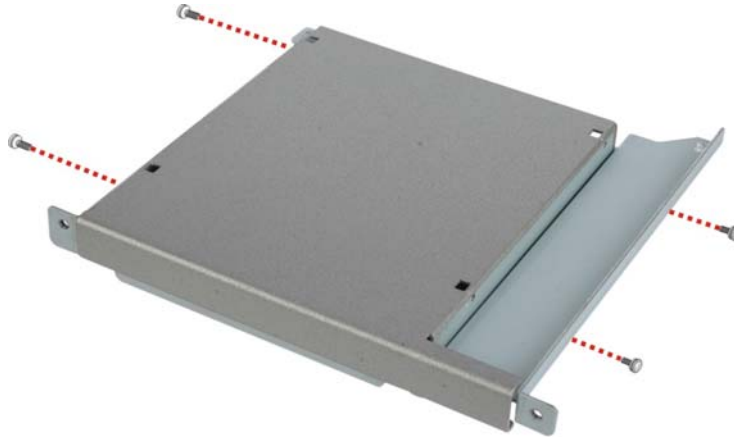

Figure 3-20: Optical Drive Blank Plate Assembly
- Step 3:** Remove the four screws from the optical drive bracket assembly (**Figure 3-20**).